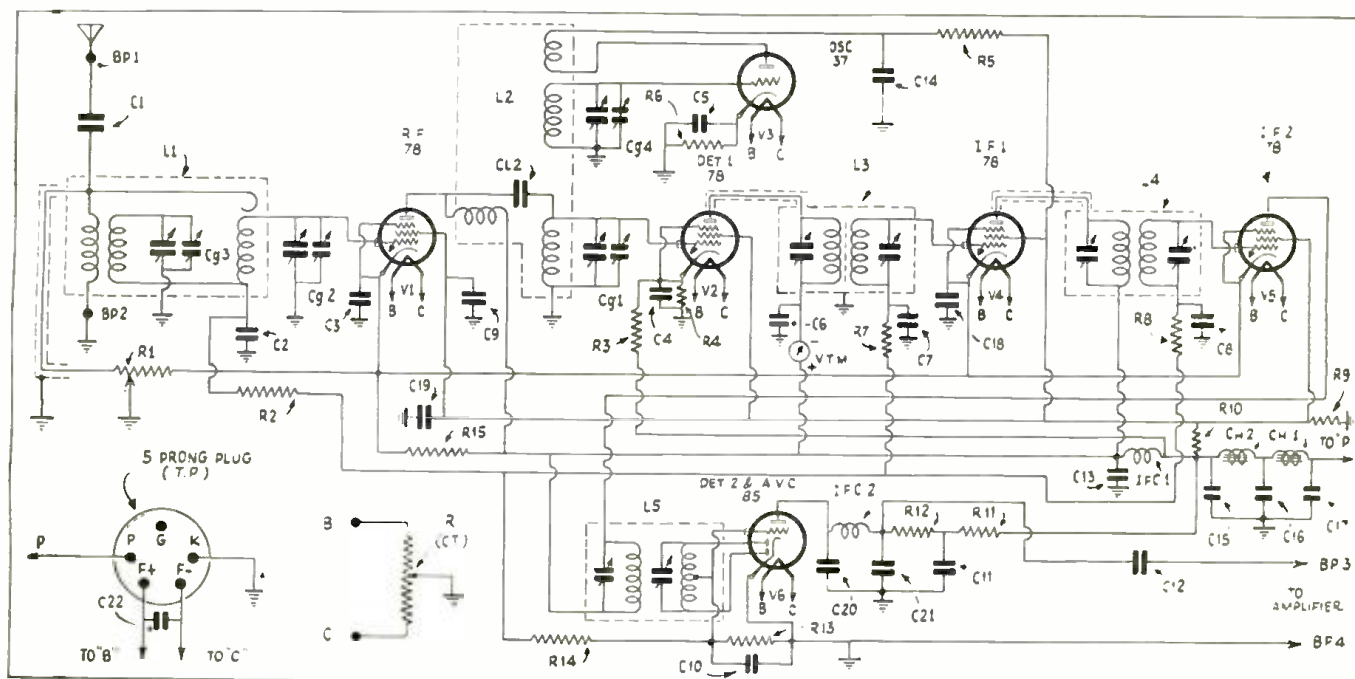
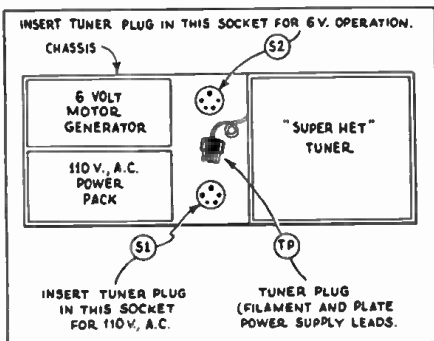

Fig. 4
Fig. 5
broadcasting systems and furnishes the finest available "fill-in" programs for all forms of P. A. work. If for no other reason, this "fill-in" feature makes it a worth while investment to complete the "interlocking P. A. system" with the specially designed, completely self-contained 6 V. storage battery and 110 V., A.C. operated "super-het" tuner. A front view of the tuner and power supply is Fig. D; an underside view is Fig. E. The schematic circuit of the tuner is Fig. 4.
By referring to the block layout of the components, Fig. 5, it will be noted that although the complete tuner is mounted upon one chassis, it consists essentially of three parts, the tuner proper, the 110 V., A.C. power supply, and the 6 V. storage battery operated motor-generator.
By referring to Fig. 4 it will be noted that all of the tubes employed in the tuner are of the 6.3 volt heater type. These tubes were selected for the following three reasons: (1) They are exceptionally sturdy and rigidly constructed, having been originally designed for automobile receivers; (2) they operate equally well from 6.3 V., A.C. or D.C.; (3) they do away with the necessity of either replacing tubes or using special adapters when changing from 110 V., A.C. to storage battery operation. In fact, the only changes involved in "switching" the tuner from 110 V., A.C. to 6 V., D.C., or vice-versa, is to remove the tuner plug TP, shown in Fig. 5, from power supply socket S1 (for 110 V., A.C. operation) and insert it into power supply socket S2 (for storage battery use); there are no additional changes required. The writer believes that this method of instantaneous change-over for "universally"-powered systems will shortly be incorporated into every worthwhile receiver or amplifier.